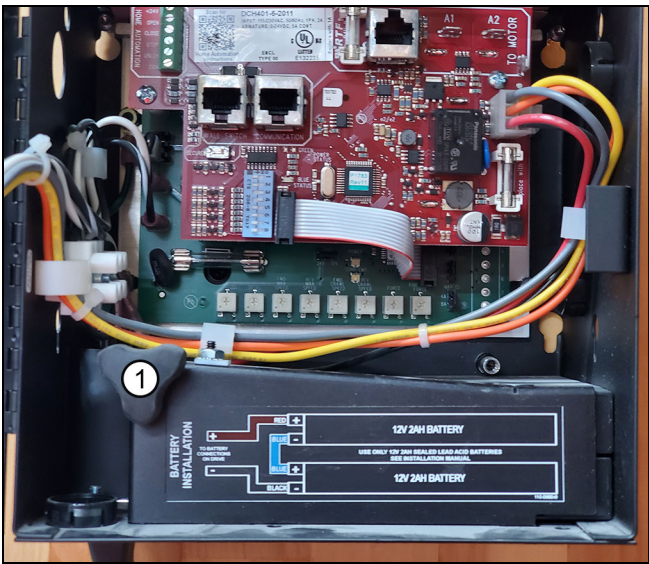
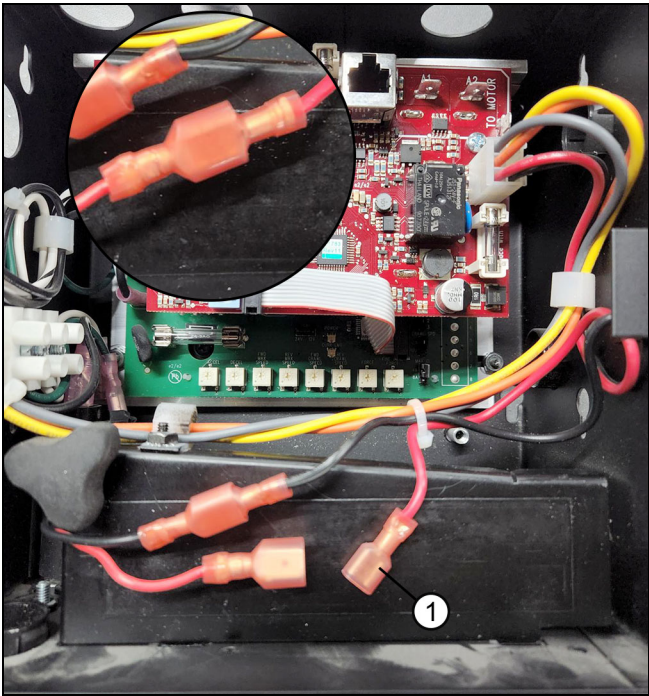

Figure 18
Figure 19
5. Remove the battery cover and battery from the control box. Connect the two loose red battery cables together to complete the circuit. Replace the battery and battery cover/nut. See Figure 18 and Figure 19.